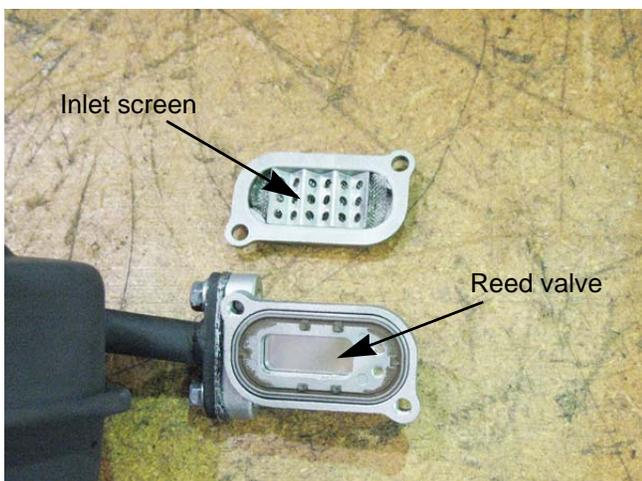

Figure 8.6
- During these periods of low pressure, air is drawn in to the converter through a reed valve in the air injector. See Figure 8.6.